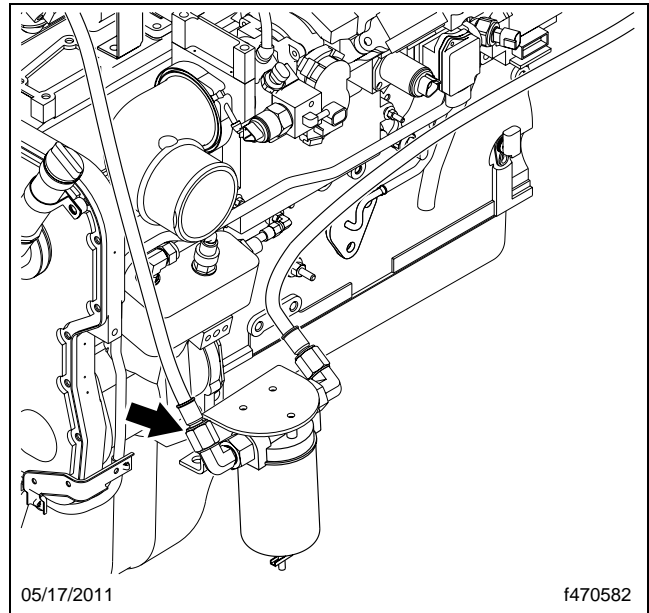

Fig. 10, Fitting Orientation at Fuel Filter
7. Orient the fitting at the fuel filter as shown in **Fig. 10** to provide a loop for engine rock.